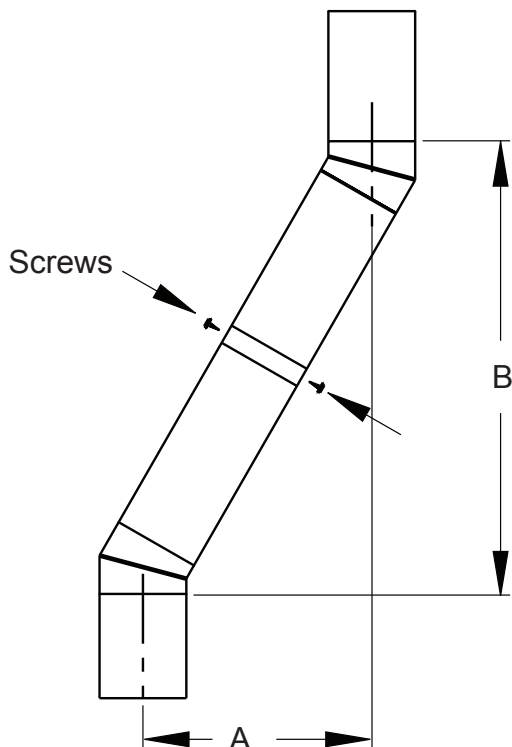

Figure 9 - Elbow Offset
Continue to assemble chimney sections as outlined above, making sure that both the inner and outer pipe sections are locked together. When installing double wall snap-lock chimney together, it is important to assure the joint between the chimney sections is locked. Check by pulling chimney upward after locking. The chimney will not come apart if properly locked. It is not necessary to add screws to keep the chimney together (exception, see Figure 9, page 9).
1. To achieve desired offset, you may install combinations of 12", 18", 24", 36" and 48" length of double wall pipe (see offset chart and Figure 9).
4. All pipe connections between the offset and return must be secured with two screws on the outer pipe only (see Figure 9). Do not penetrate the inner stainless.